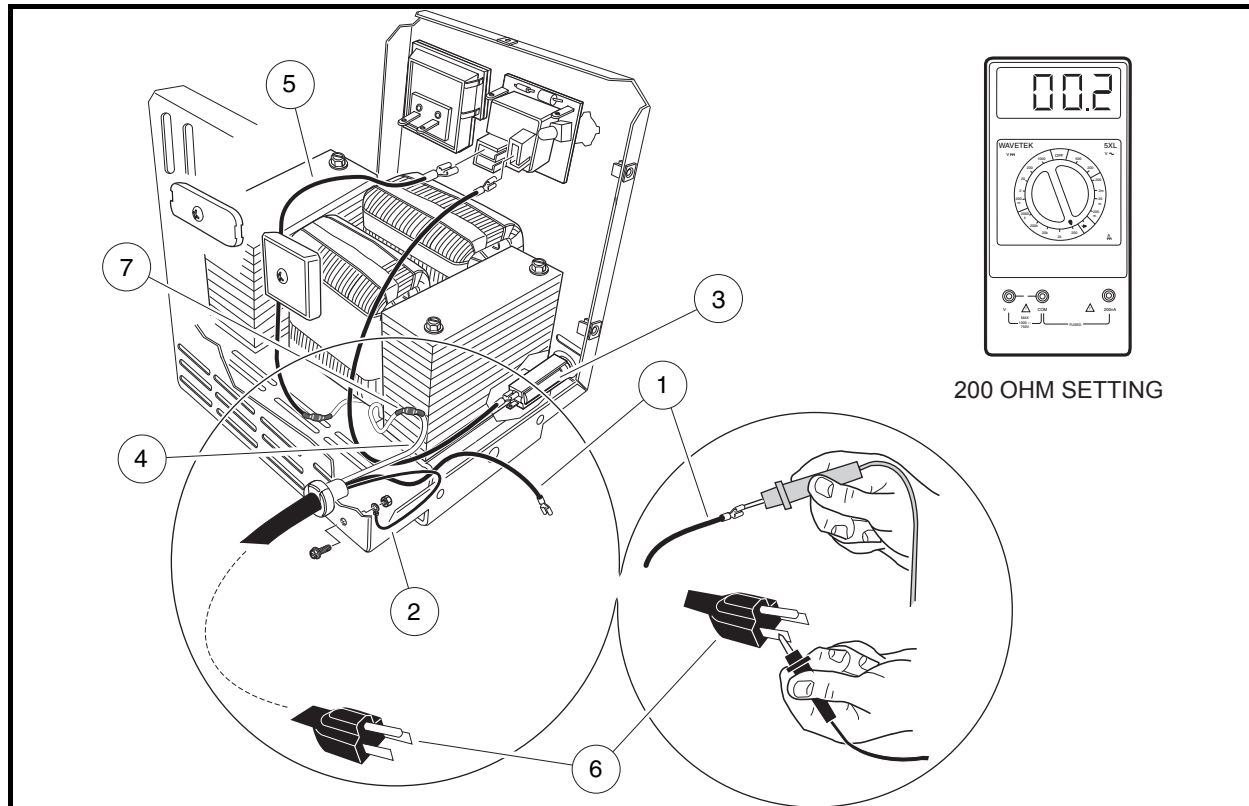

Figure 6-22 AC Cord and Plug Continuity Test
6. If the circuit is not complete, check the wiring of the AC cord, transformer primary coil wires, and internal AC circuit breaker (**Figure 6-22, Page 6-24**).
3. Disconnect the green wire (2) from charger case and position it so it does not touch any metal part of the charger (**Figure 6-22, Page 6-24**).
4. Disconnect the black wire (1) of AC cord from charger AC circuit breaker (3).
5. Carefully cut the heatsink (7) that insulates the AC cord white wire (4) where it connects to the tan primary coil wire.
6. Disconnect the AC cord white wire (4) from the primary coil tan wire.
7. Using a multimeter set for 200 ohms, place the red (+) probe on the terminal at the end of the black wire (1). Test for continuity on each of the flat blades and then on the round pin of the AC plug (6). The tester should indicate continuity on one flat blade only. If any other reading is obtained, the AC cord and plug must be replaced.
8. Place the red (+) probe on the end of the green wire (2) and with the black probe check for continuity on both flat blades and on the round pin of the AC plug (6) (**Figure 6-22, Page 6-24**). The tester should indicate continuity on only the round pin. If any other reading is obtained, the AC cord and plug must be replaced.
9. Place the red (+) probe on the white wire (4) and check for continuity on both flat blades and on the ground pin of the AC plug (6). The tester should indicate continuity on only one flat blade. If any other reading is obtained, the AC cord and plug must be replaced.
1. Disconnect AC cord (6) from the wall outlet and DC plug from the vehicle receptacle.
3. Carefully cut the heatshrink (7) that insulates the AC cord white wire (4) where it connects to the tan primary coil wire and disconnect the white wire (4) (**Figure 6-22, Page 6-24**).
4. Disconnect the black primary coil wire (5) from the relay (**Figure 6-22, Page 6-24**).